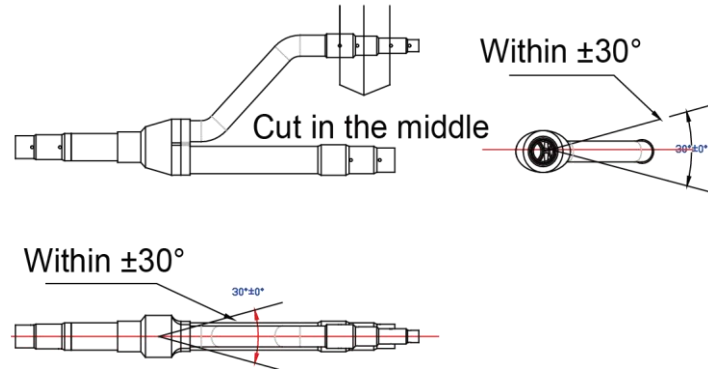

Fig. 20
- (2) Y-type branch has several pipe sections with different dimension, which facilitates to match with various copper pipes. Use pipe cutter to cut in the middle of the pipe section that is of proper dimension and remove burrs as well. See Fig. 20.
- (3) Y-type branch must be installed vertically or horizontally.